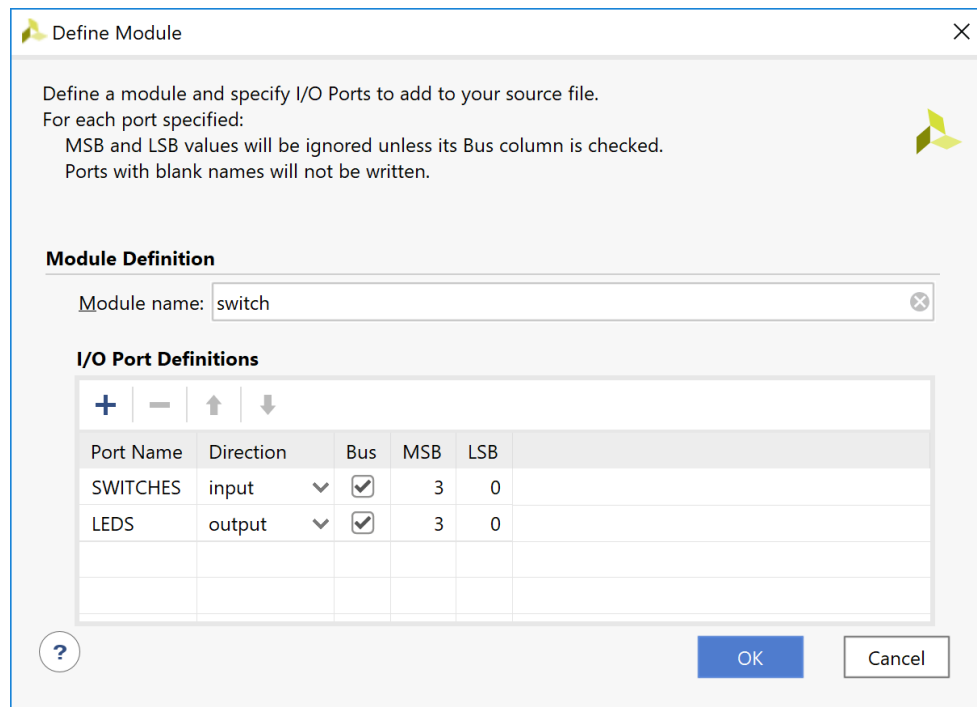

Figure 3: Define Module
- (h) Next, the 'Define Module' window will appear (Figure 3). This allows us to define the ports for our hardware module. Xilinx will auto generate part of our source file based on the information provided. Specify a port called 'SWITCHES'. Set its direction to 'input', check Bus, set the Most Significant Bit (MSB) to 3, and set the Least Significant Bit (LSB) to 0. Specify another port called 'LEDS' and set the direction to 'output', check 'Bus', set MSB to 3, and set LSB to 0. This will create a 4-bit input port, which will connect to the on-board slide switches, and a 4-bit output port, which will connect to the on-board LEDs. Click 'OK'.